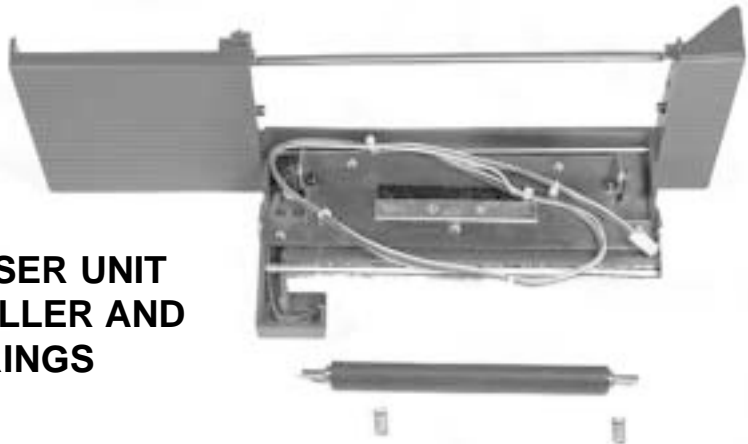

Fig. 9-8a DISPENSER UNIT WITH ROLLER AND SPRINGS
7.	Refer to Fig. 9-8a & Figs. 9-12 Place spring on pin (both ends) and attach roller with flat area of shaft over spring and into hole (both ends).
15.	Refer to Fig. 9-8a and Figs. 9-18 Install dispenser unit in its entirety to the front of the print cover previously removed in Step 6 with (5) screws.